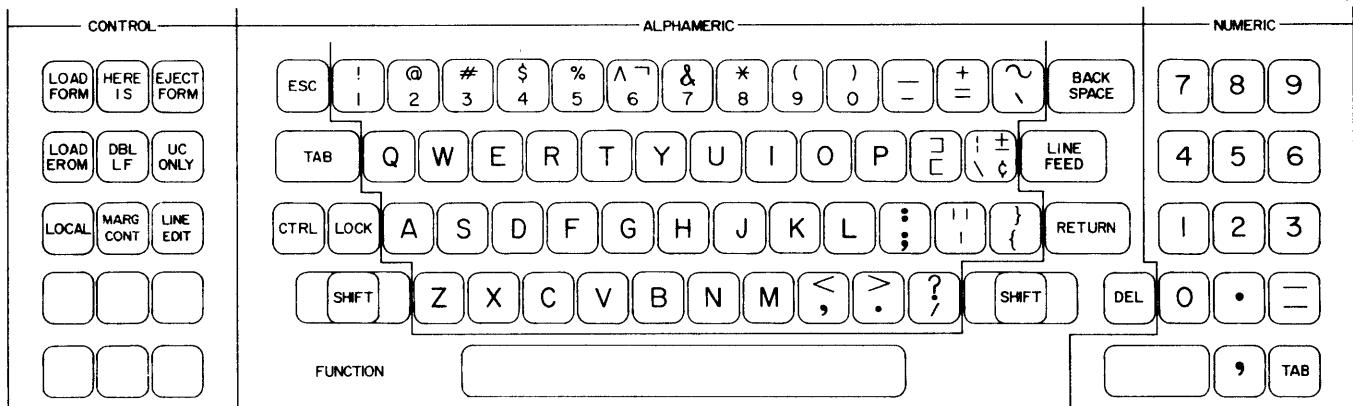

Figure 2-14 STANDARD KEYBOARD ASSIGNMENTS - KSR MODELS
Figure 2-14 illustrates the standard key assignments for the 1640/1650 Series Keyboard. Following is a description of the function of the special keys found in each section of this keyboard.
**THE NUMERIC SECTION:** This section is to the right of the Alphabetic section, as shown in Figure 2-14. It contains a 10 key pad with period, hyphen, space bar, comma and tab keys. The key assignments in this section do not change with Shift key operation, and are therefore useful in place of their alphabetic counterparts while the 1650 is in the shifted or CTRL modes.